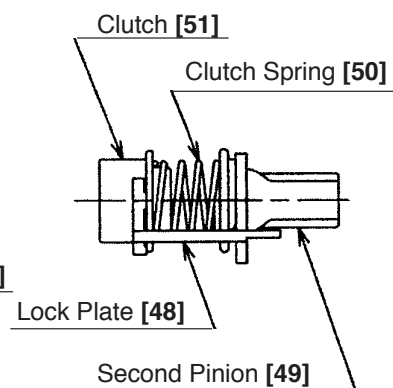

Fig. 15
- Pull out the Second Pinion **[49]**, Clutch Spring **[50]**, Clutch **[51]** and the Lock Plate **[48]** (these parts are sandwiched by means of the Lock Plate **[48]** as a unit as shown in Fig. 15) from the end of the Second Shaft **[52]**. Turn the Reciprocating Bearing **[53]** so that the Piston **[39]** is moved to its maximum upper position (Inner Cover Ass'y **[41]** side). The arm of the Reciprocating Bearing **[53]** can then be disconnected from the Piston Pin **[42]**, and the Second Shaft **[52]** and the components mounted on it can be removed from the Inner Cover Ass'y **[41]** as a unit.